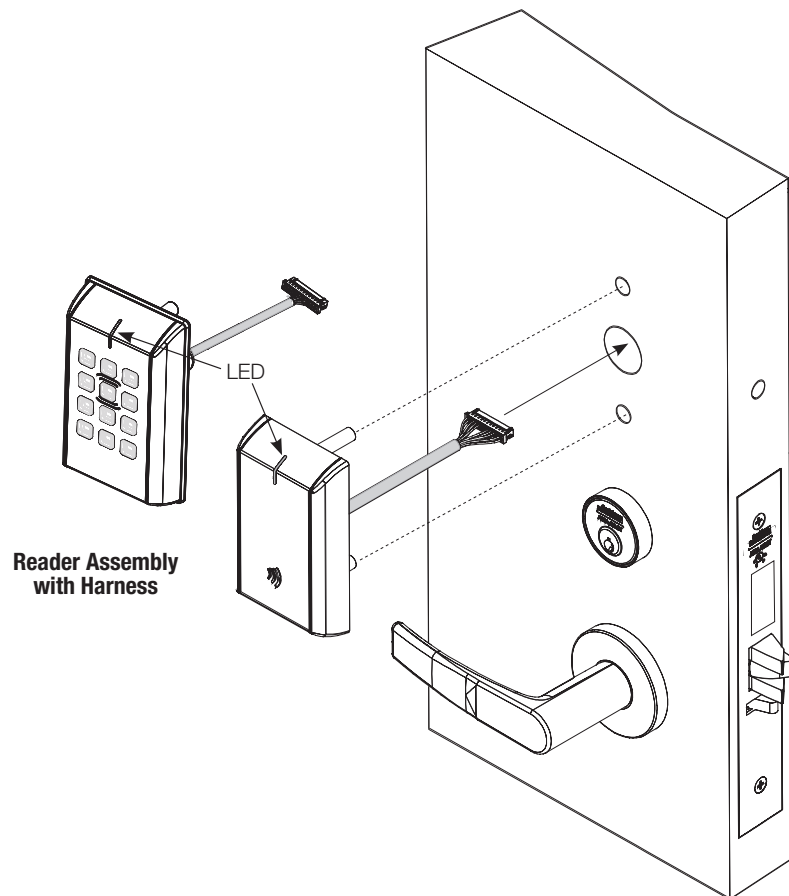

Fig. 9a
- Orient reader so LED lens is at top. (Fig. 9a)